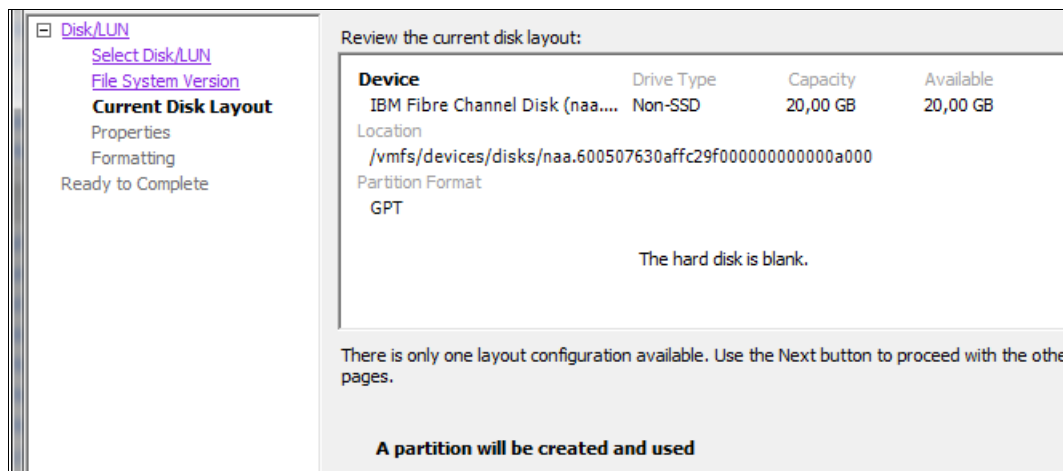

Figure 7-12 Current disk layout
- d. Review the current disk layout in the page shown in Figure 7-12. Ensure that the LUN is empty and that no data will be overwritten. Click **Next**.